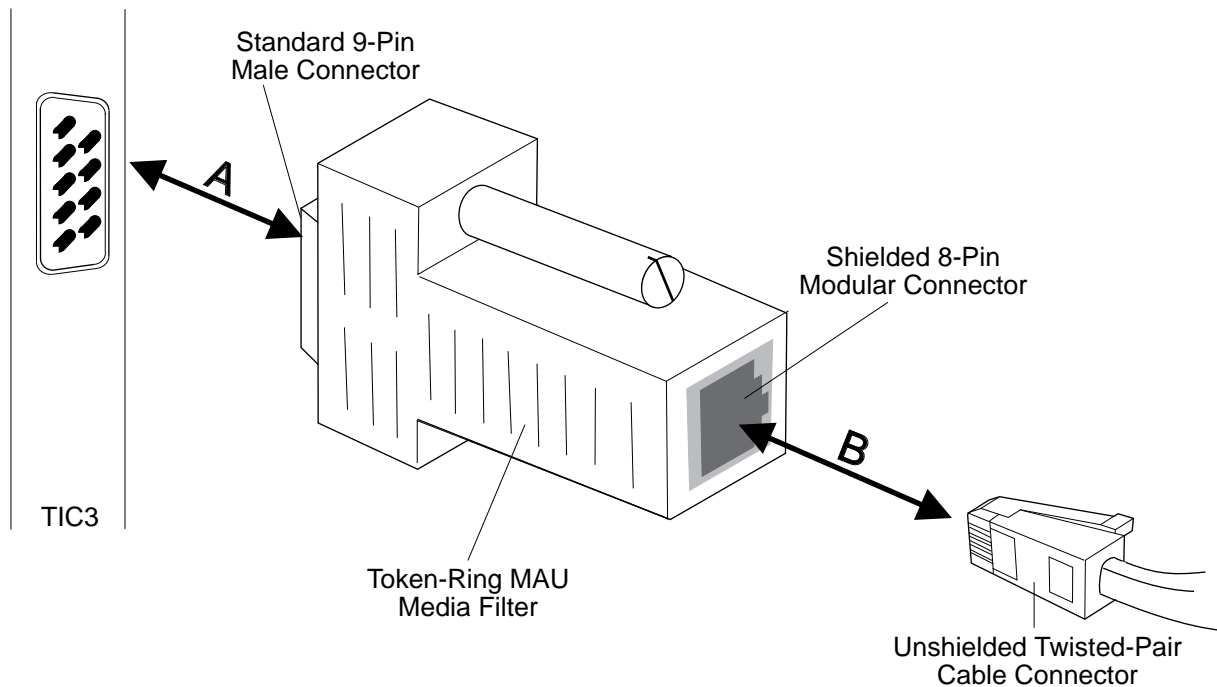

Figure 7-6. Installing or Removing a Token-Ring UTP Cable and Media Filter
- Step 2** Pinch the UTP cable connector and pull it out (see A in Figure 7-6 on page 7-6).
- Step 2** Loosen the retaining screws and pull out the media filter (see A in Figure 7-6).
- Step 2** Insert the media filter into the TIC3 connector and tighten the retaining screws (see A in Figure 7-6).
- Step 1** To plug in a UTP cable, push the connector into the media filter socket until it clicks into place (see B in Figure 7-6).